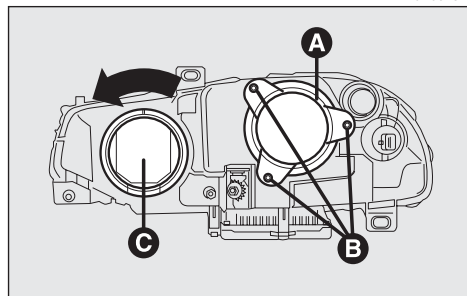
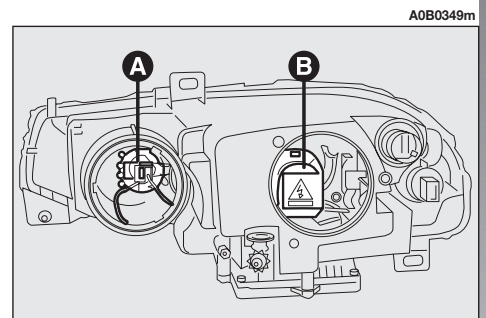
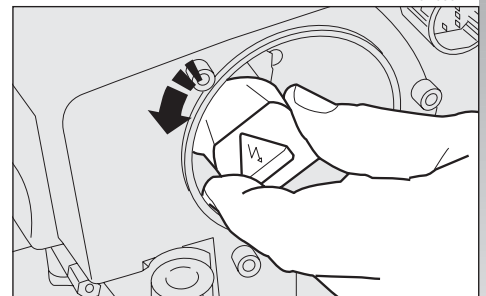

fig. 23
fig. 24
fig. 25
- Unscrew the three locking screw (B-fig. 23) and remove the protective (A) cover.
- Rotate the connector (B-fig. 24) of the Xenon lamp by a quarter of a turn counter-clockwise, as indicated in fig. 25, and remove it.
- Refit the protective cover correctly (**A-fig. 23**).
- Turn the protective cover counter-clockwise (**C-fig. 23**) in order to reach the high-beam headlight bulb (**A-fig. 24**).
- Refit the protective cover correctly (**C-fig. 23**).
- Turn the protective cover (**C-fig. 23**) counter-clockwise in order to reach the side-light bulb.